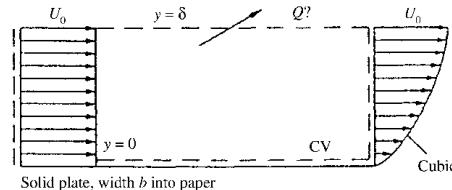

Fig. P3.16
**3.16** An incompressible fluid flows past an impermeable flat plate, as in Fig. P3.16, with a uniform inlet profile  $u = U_o$  and a cubic polynomial exit profile